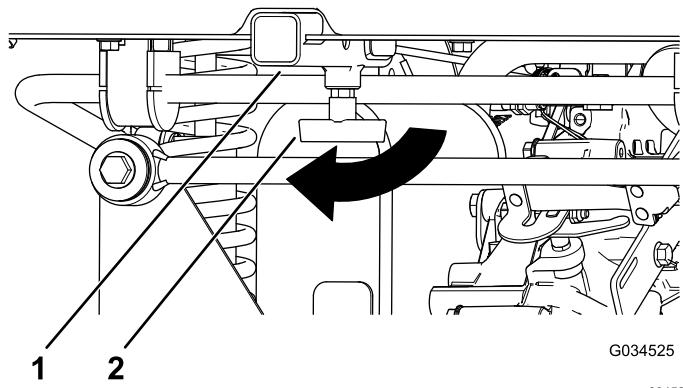

Figure 19
1. Loosen the "T" handle by rotating it clockwise (Figure 19).
2. Insert your accessory into the receiver until the holes align (Figure 19).